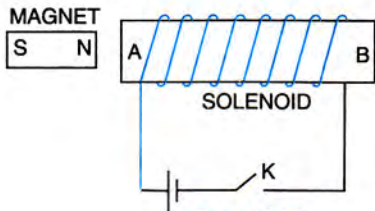

Fig. 10.17
12. The diagram in Fig. 10.17 shows a small magnet placed near a solenoid AB with its north pole N near the end A. Current is switched on in the solenoid by pressing the key K.